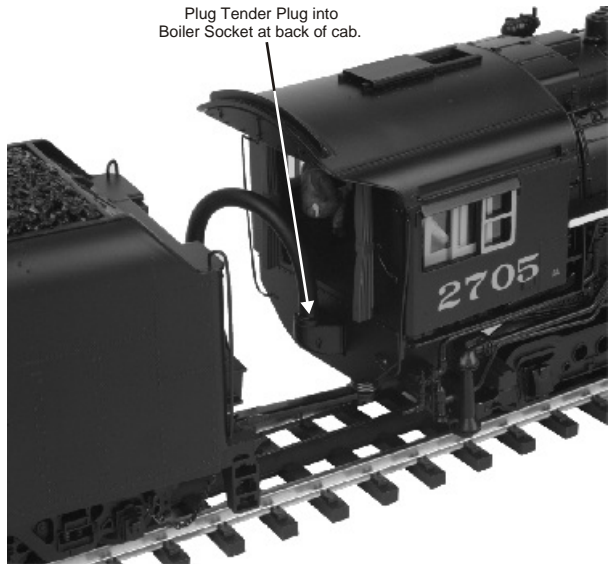

Figure 9
3. Gently pull the bulb from the headlight shell and separate the blue connector inside the smokebox area. (Fig 9)